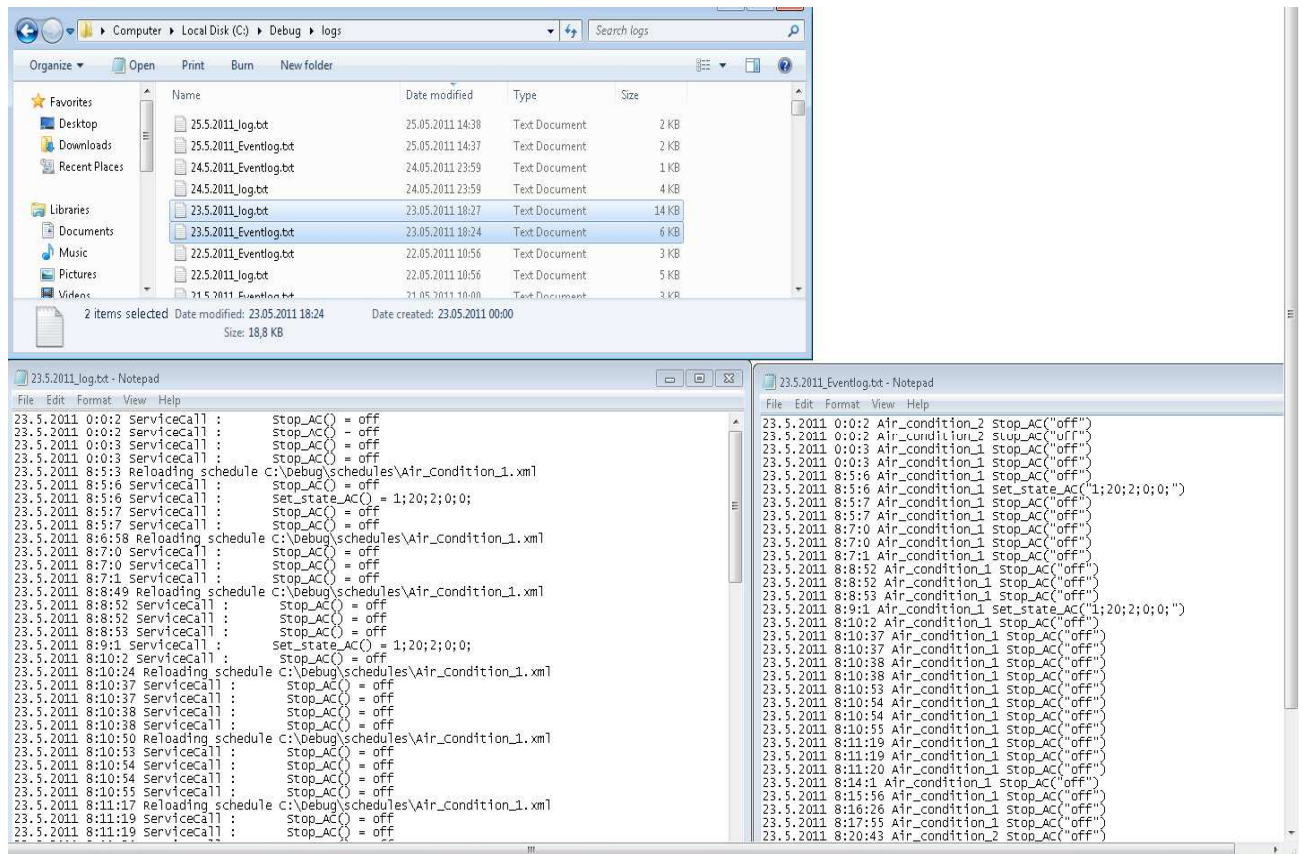

Figure 9. Activity and event logs
- logs folder - this folder contains the activity and event logs of the Smart Building Controller, as illustrated in figure 9. For each day the Smart Building Controller creates two files in the logs folder:
A complete example on specifying event types is given below for the **VoiceRecoEvents.DLL** assembly illustrated in figure 9. In this example, a *SpeechReco* event is defined for a speech recognition WCF service which sends *SpeechReco* events to the SBC as the user speaks.